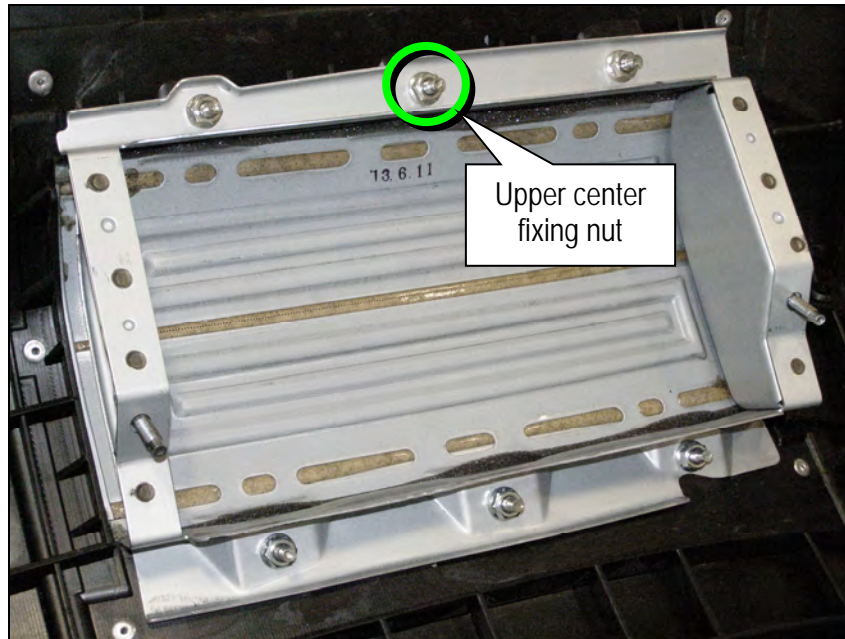

Figure 14
9. Remove the upper center fixing nut from the air bag module support bracket (Figure 14, shown with instrument panel removed).